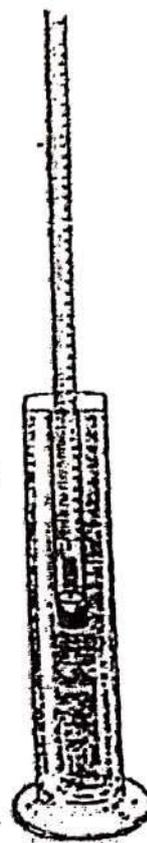

Figure 2 Measuring the volume of gas.
10. Cover the hole in the stopper with your finger and transfer the burette to a large graduated cylinder almost full of room temperature water. See Figure 2. Raise or lower the burette until the level of the liquid inside the burette is the same as the level outside the burette. This permits you to measure the volume of the gases in the burette (H_2 and water vapor) at room pressure.